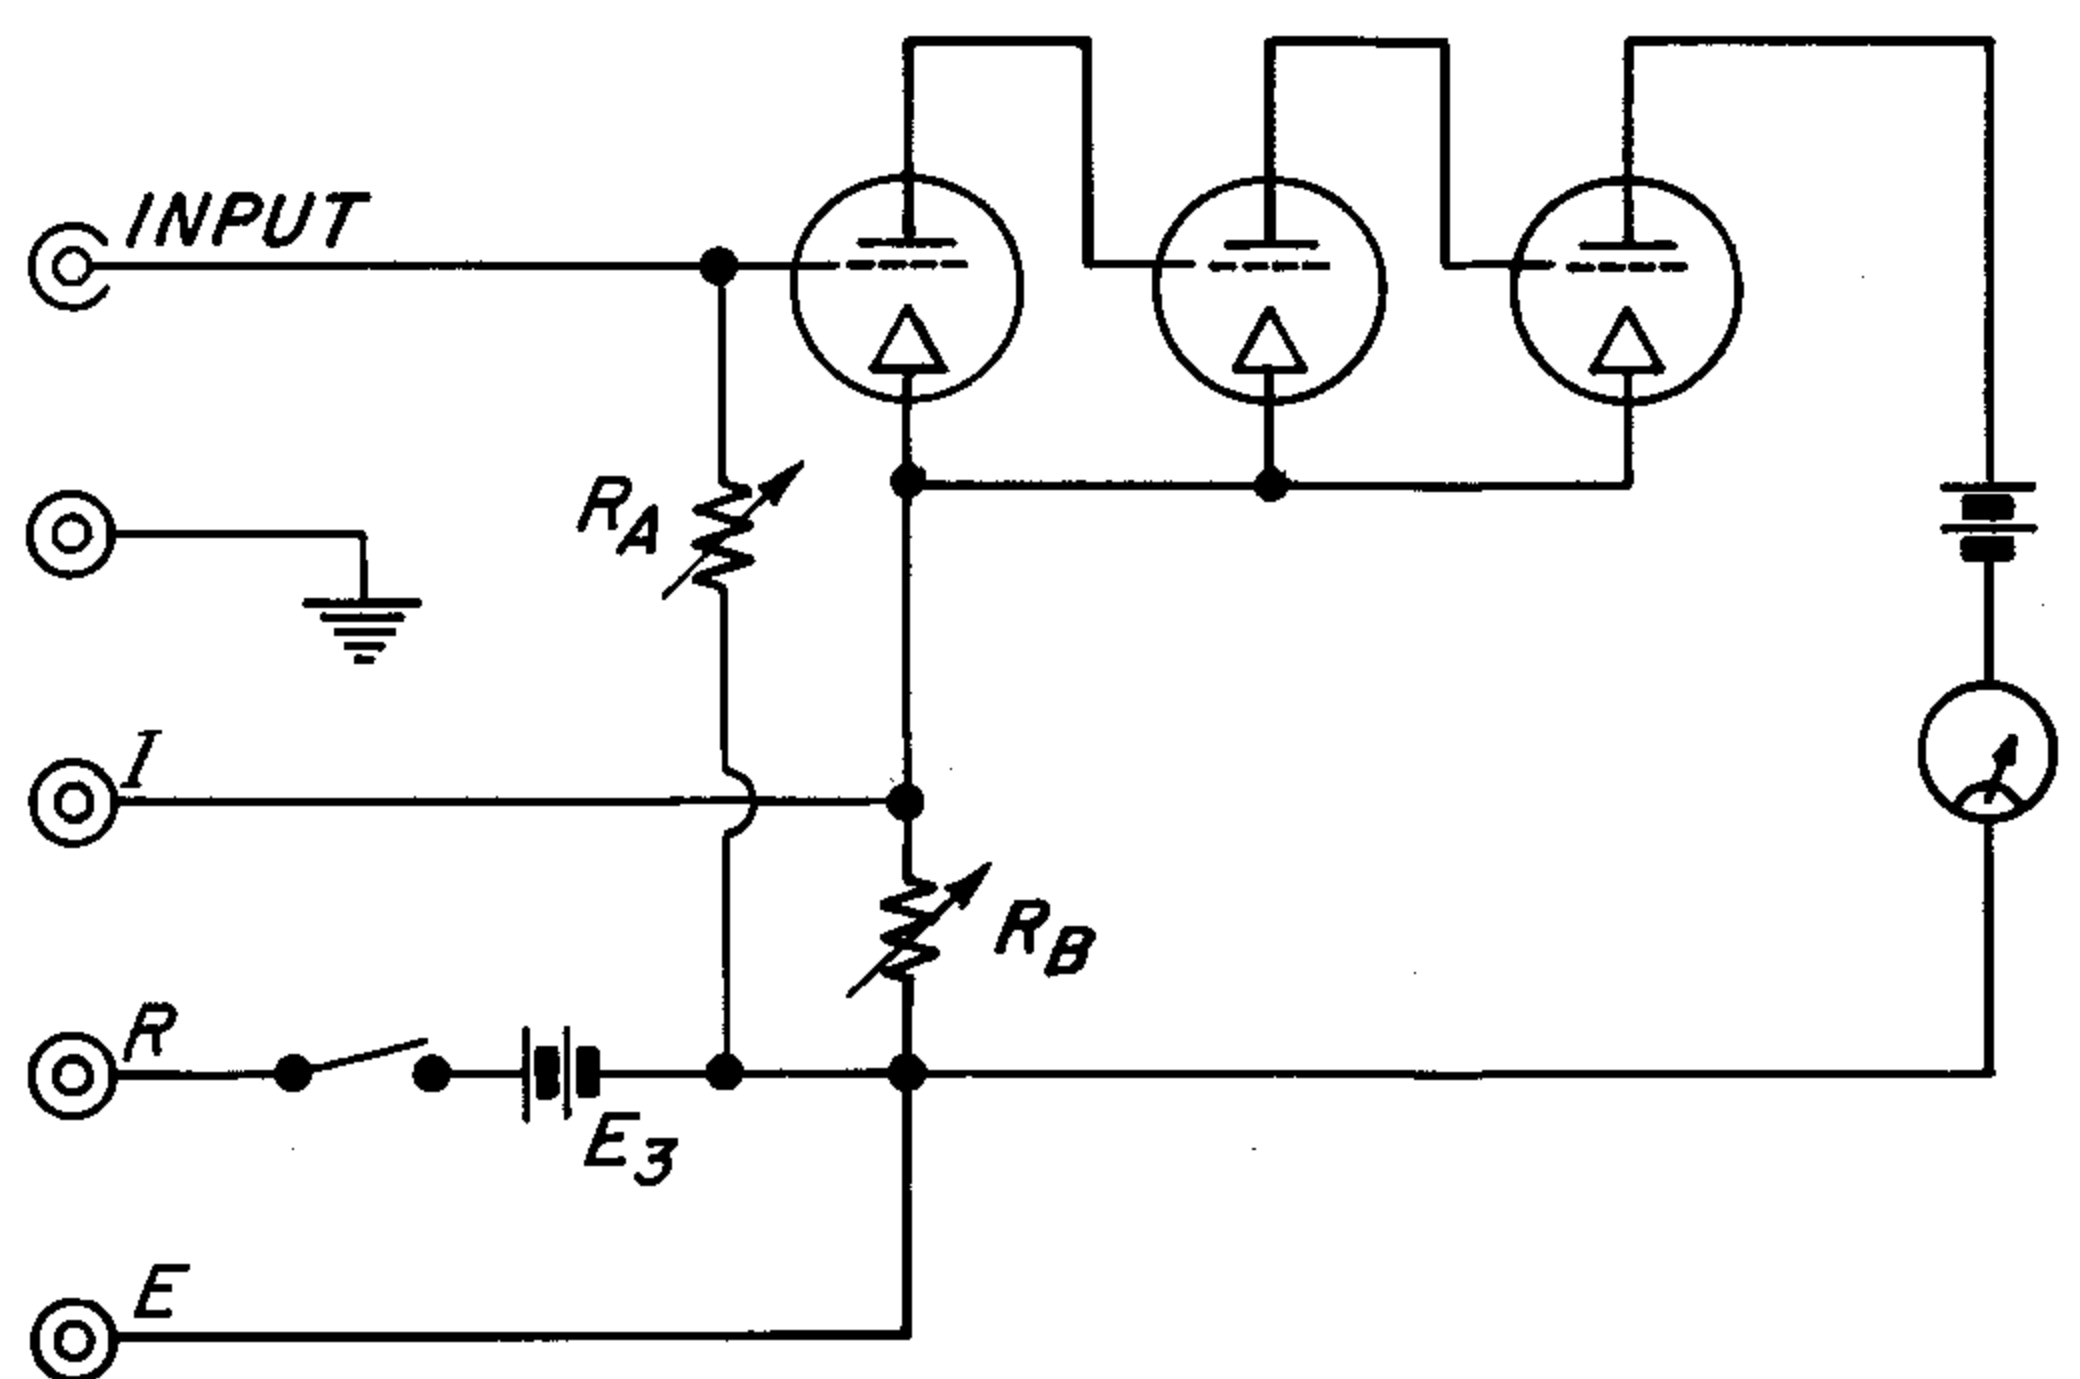

Figure 3. Guard-Point Arrangement.
2.2.2 A second method of measuring current results in an appreciably lower "ammeter resistance". Since the voltage at the input and the voltage across  $R_B$  are practically equal and of the same polarity, the voltage difference from the high INPUT terminal (grid of first tube) to the high side of  $R_B$  ( $I$ , Figure 3) is very small (about  $150 \mu\text{v}$  at full scale). Any current source connected between these two points cannot develop appreciable voltage between the points, and the "ammeter resistance" is therefore very low. The unknown current, however, still flows through  $R_A$ , and therefore the instrument indicates current in the same manner as that described in paragraph 2.2.1. The lower "ammeter resistance" is obtained at some sacrifice in stability, however, if the source impedance is relatively low. (Refer to paragraph 4.3.)
2.3 RESISTANCE MEASUREMENTS. Resistance measurements are made by means of an auxiliary voltage,  $E_3$  (9.1 volts if internal, any voltage up to at least 600 volts if external), connected in the series network of standard and unknown resistors (see Figure 3). The resultant voltage drop across the standard resistor is a measure of the unknown resistance. The meter is calibrated to indicate this resistance directly when  $E_3$  is internal.
For measurement of three-terminal resistances or ungrounded resistances, a more flexible guard-ground system is desirable. To meet these situations, the Type 1230-A D-C Amplifier includes three guard terminals (I, R, and E), with provision for grounding any one of the three. Figure 3 shows the guard-point arrangement.